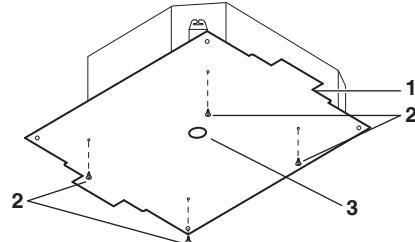

Fig. 8
(2) Fix the paper pattern for installation. (For new ceilings only.)
- After cutting of the printing pattern for installation from packing, attach the paper pattern for installation to the unit with the attached screws as shown in **Fig. 8**.